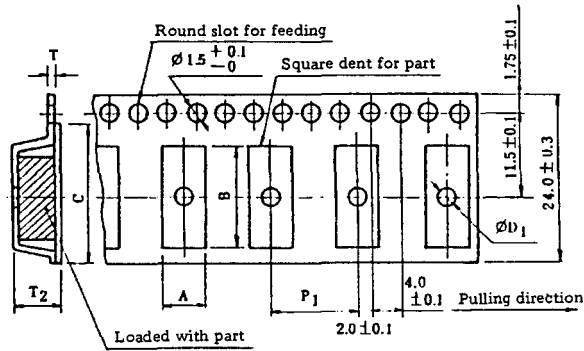

Fig. 6-7 Embossed taping types TE2412, 2416 and 2420
c) Types TE2412, 2416, 2420 (Fig. 6-7)